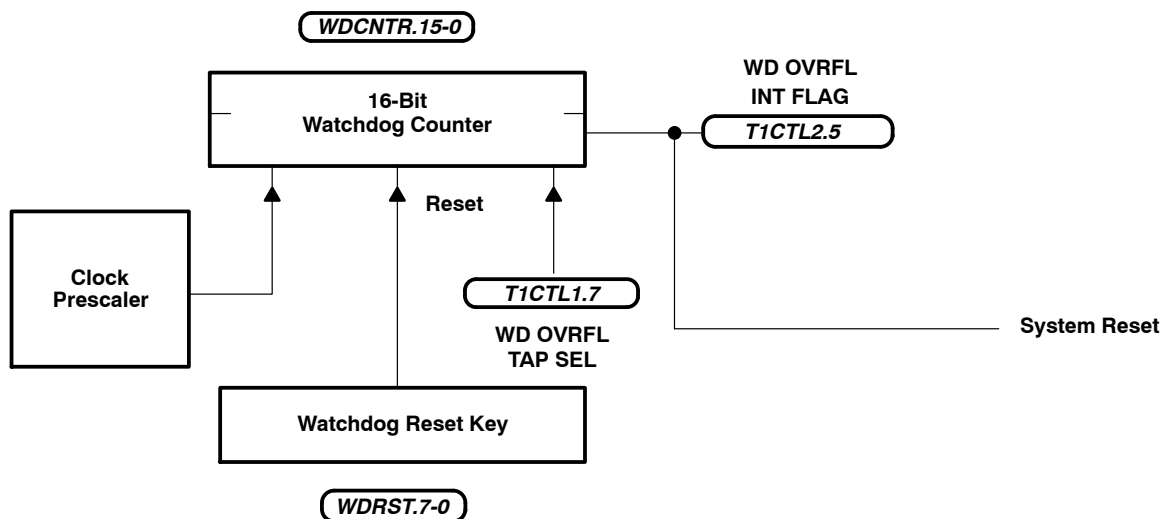

Figure 10. Hard Watchdog
- Hard watchdog configuration (see Figure 10) – for mask-ROM devices